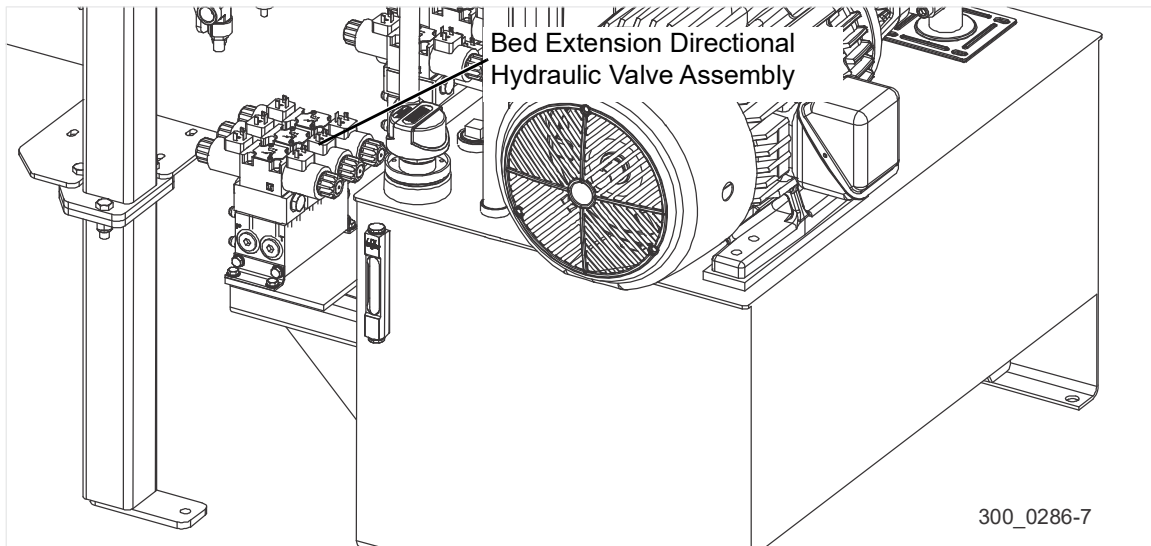

FIG. 3-28
3. Install the bed extension directional valve assembly to the hydraulic power unit, as shown in Figure 3-28.